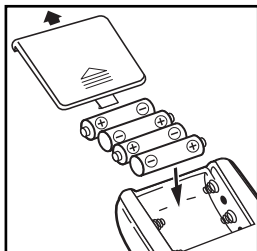

Fig.3
1. Remove the battery compartment cover and insert 4 AA type batteries, as indicated on the diagram inside the compartment. Make sure the polarities are matched. Do not apply excessive force when removing the battery compartment cover (fig. 3).